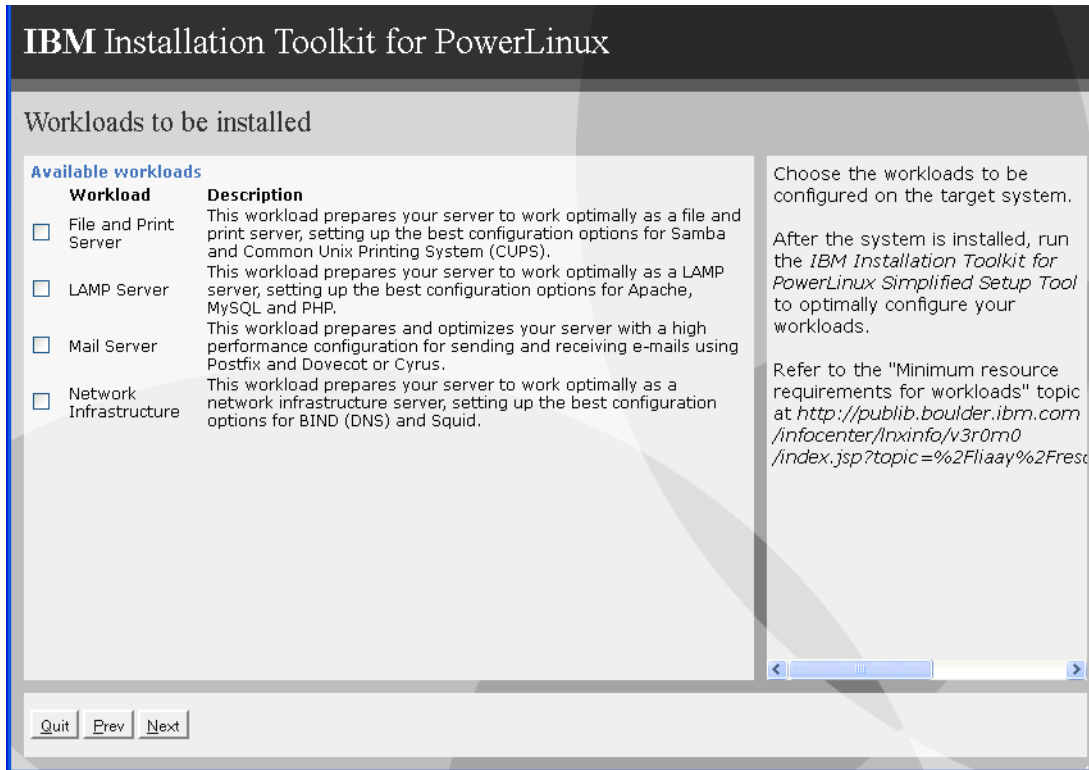

Figure 12-13 Workloads to be installed menu
17. As shown in Figure 12-13, select the available workloads to install, depending upon your requirements and click **Next**.